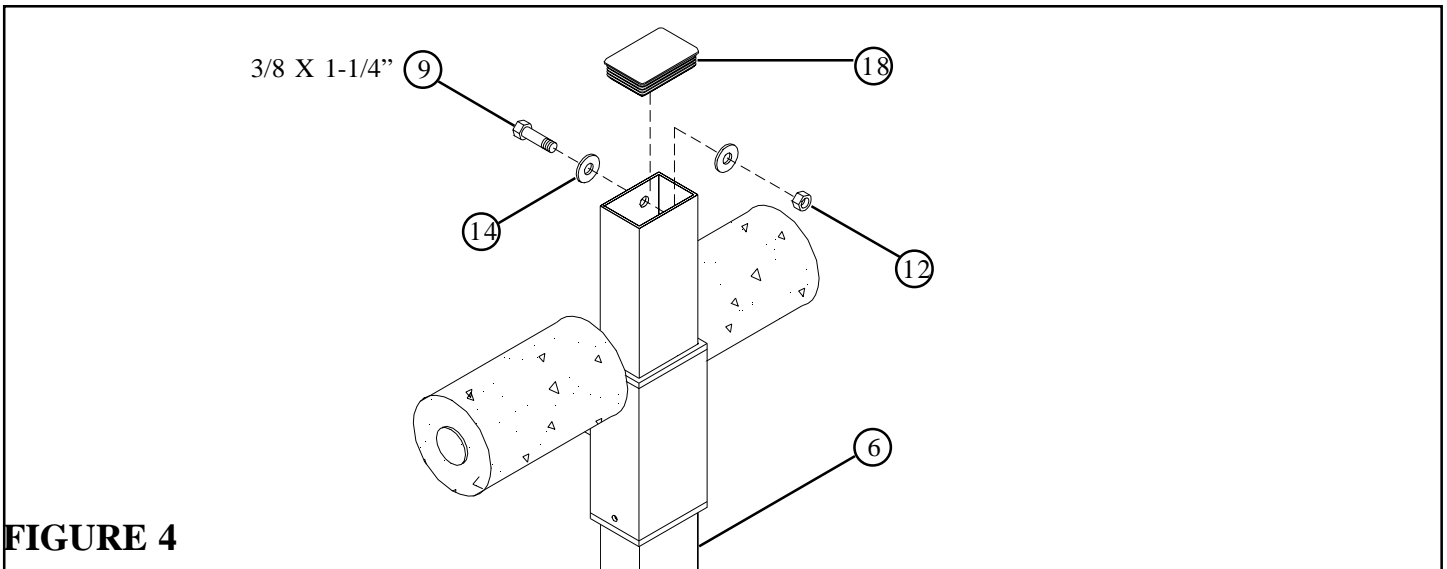

FIGURE 4
- **SECURELY** assemble on 3/8 X 1-1/4" BOLT (9), two 3/8" WASHERS (14), and one 3/8" LOCK NUT (12) into the top hole on the REAR UPRIGHT (6). See FIGURE 4.
- Insert one 3 X 2" END CAP (18) into the top of the REAR UPRIGHT (6) as shown in FIGURE 4.